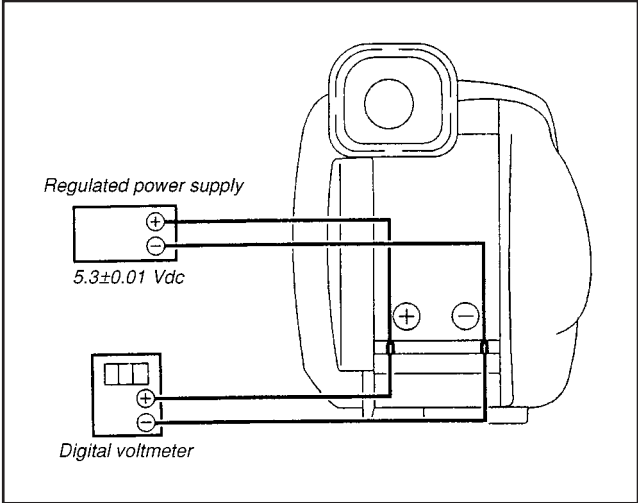

Fig. 5-3-4.
- 1) Connect the regulated power supply and the digital voltmeter to the battery terminal as shown in Fig. 5-3-4.